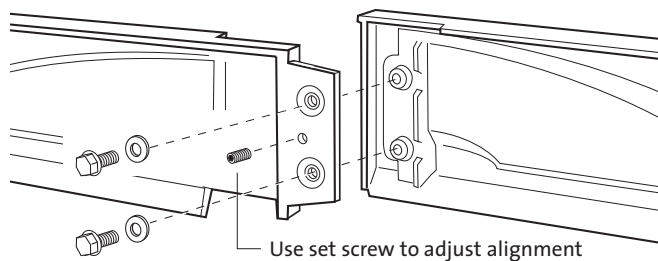

Figure 39. Attach Surround Breastplates
2. Lay the four surround panels on the floor backside up. Using two bolts and washers attach the right and left upper sections (breastplates) together. See fig. 39.